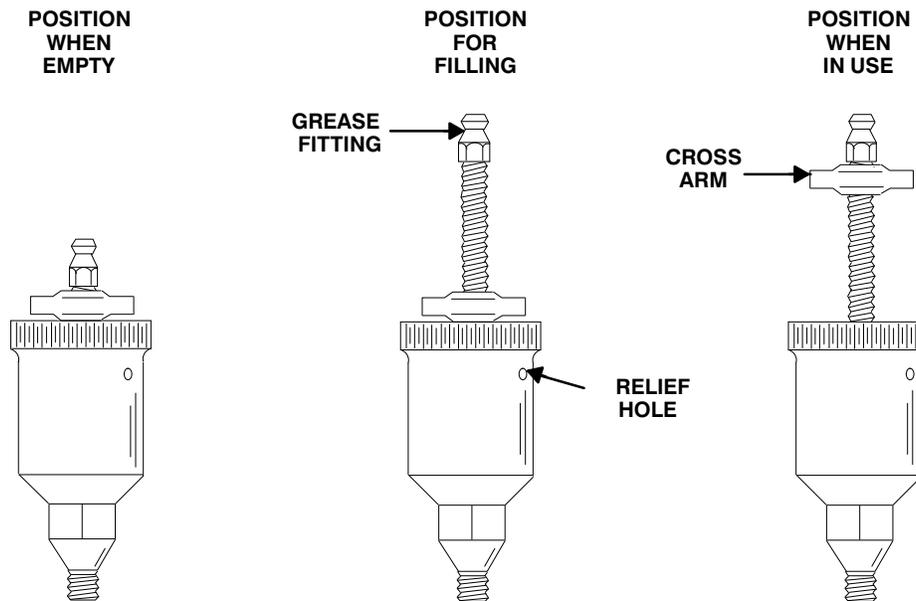

Figure E-4. Automatic Lubricating Grease Cup
Fill the grease cup (14) through the grease fitting with No. 2 lithium base grease until grease escapes from the relief hole. Turn the grease cup arm counterclockwise until it is at the top of the stem; this will release the spring to apply grease to the seal (see Figure E-4).